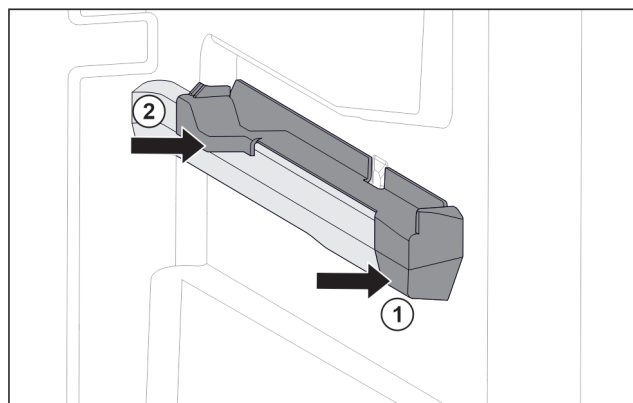

Fig. 83 Attachment on the right moulded rib
- ▶ Position attachment on moulded rib at the front. *Fig. 83 (1)*
- ▶ Press on attachment at the back. *Fig. 83 (2)*